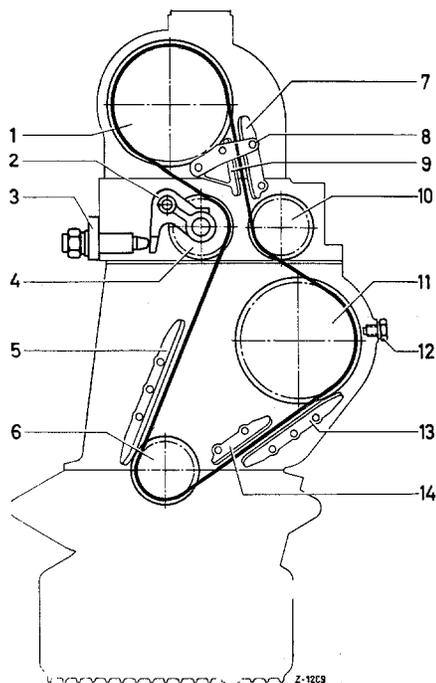

Figure 07-25/5
Insert this hook between intermediate sprocket and chain, counterholding the guide rail when knocking the pivot pin into the cylinder crankcase (see Figure 07-25/5).
20. Screw in the locking screw (12) for the chain drive and tighten (see Figure 07-25/5).
Use a fork wrench to turn the hex. nut (6) in direction of rotation (see Figure 07-25/4). If after releasing, the intermediate sprocket shaft returns to its original position, the springs of the injection timing device are in order. In the negative, replace the injection timing device or check whether the centrifugal weights return to the original position by trying to press the centrifugal weights to the centre with your finger. To do this, the injection timing device should be dismantled again.
21. Place the washer (4), the lock washer (5) on the intermediate sprocket shaft, screw on the hex. nut (6) and tighten with a torque of 7 mkg. (see Figure 07-25/4). Check the axial clearance of the intermediate sprocket shaft (10) (0.05 to 0.12 mm).
23. Screw the cover (18) incl. gasket (21) with the cylinder head bolts (20) to the cylinder crankcase. To do this, check the gasket, replace, if necessary.